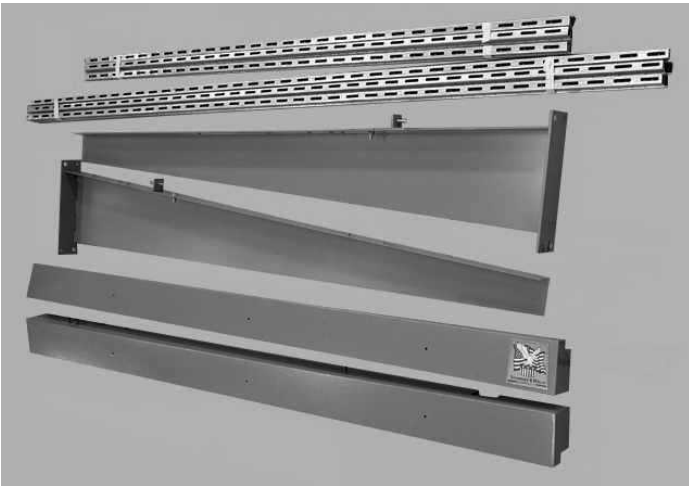
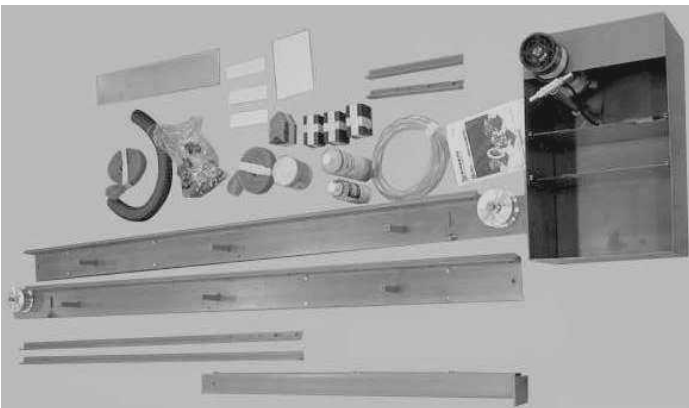

Figure 12
Figure 13
The items in the shipment should consist of (see Figure 12, Figure 13):
- (1) 1 9/16 to 2 1/2 hose clamp
- e.) Loose components consisting of (see Figure 12, Figure 13):
- (1) bag of hardware for components (see "d." above)